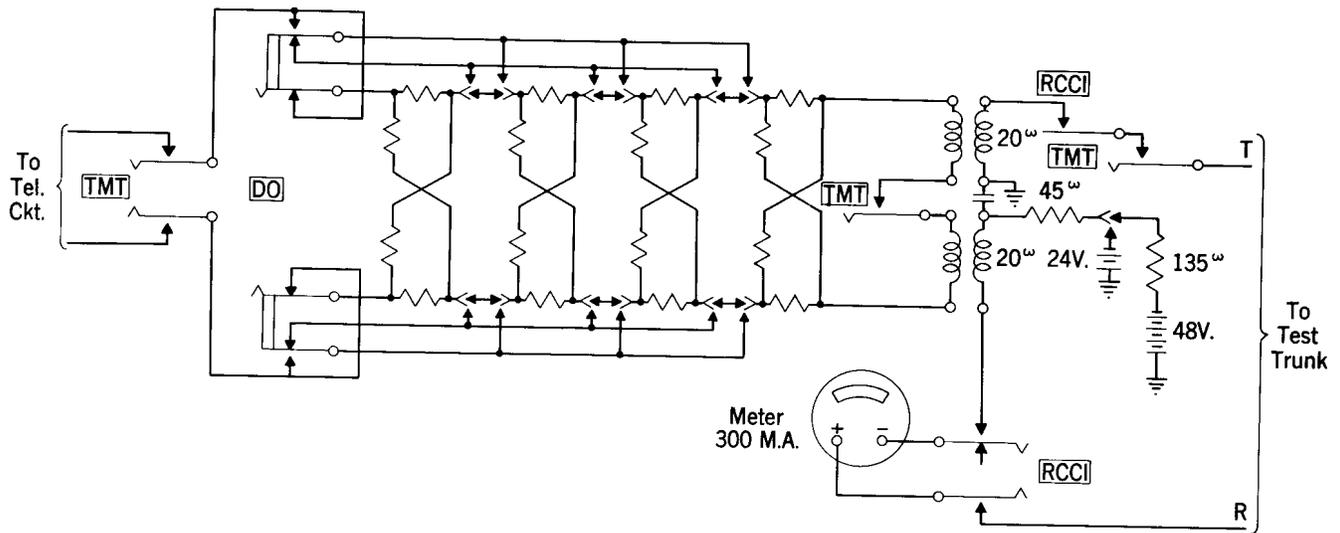

Fig. 11—Transmission Test
**5.46** To make a transmission test with an employee or a subscriber at a station, operate the RCCI key. Also operate the TMT key, except where 1500-ohm range test trunks are used and the actual resistance of the test trunk is at or near this value. In these cases, the test trunk will provide sufficient transmission loss for the test. Operation of the RCCI key supplies battery and ground to the line. The TMT key, when operated, cuts an attenuator into the transmission path to increase the loss so that the transmission level is about equal to that received by the subscriber on a toll connection (see Fig. 11).